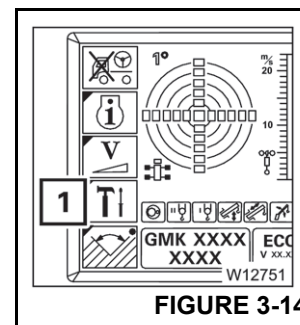
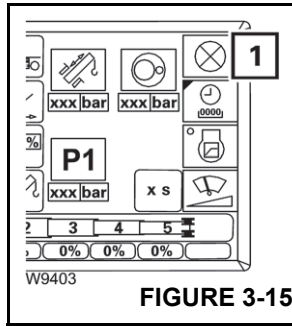

FIGURE 3-14
FIGURE 3-15
1. If necessary, in the ECOS display, open the main menu and press the F4 button (1) (Figure 3-14). The Settings submenu (Figure 3-15) opens.
2. Press the F5 button (1) (Figure 3-15).